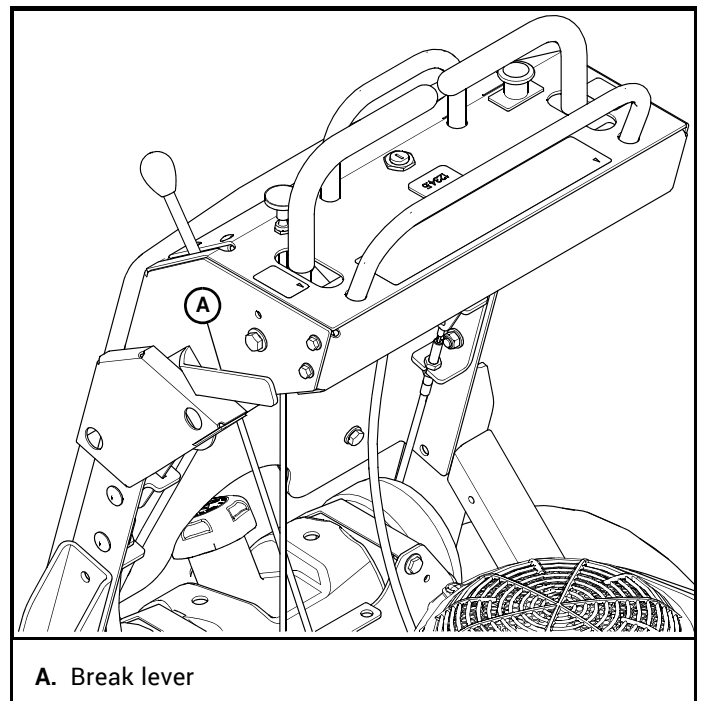
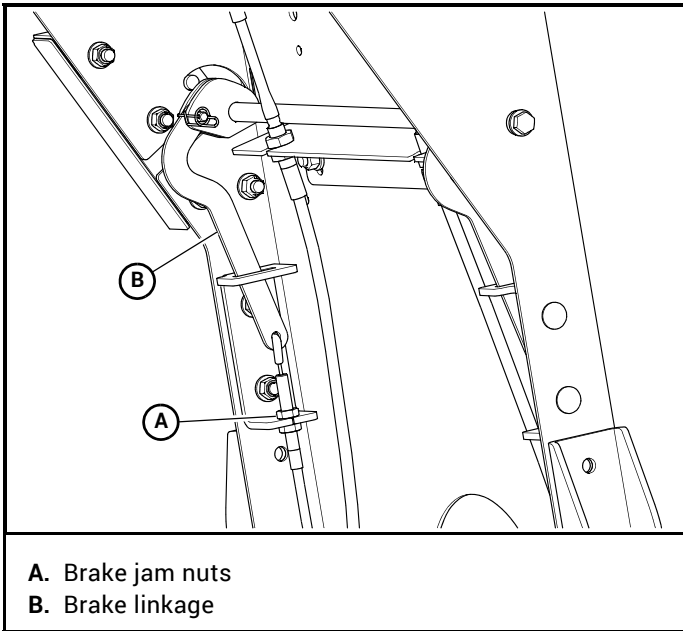
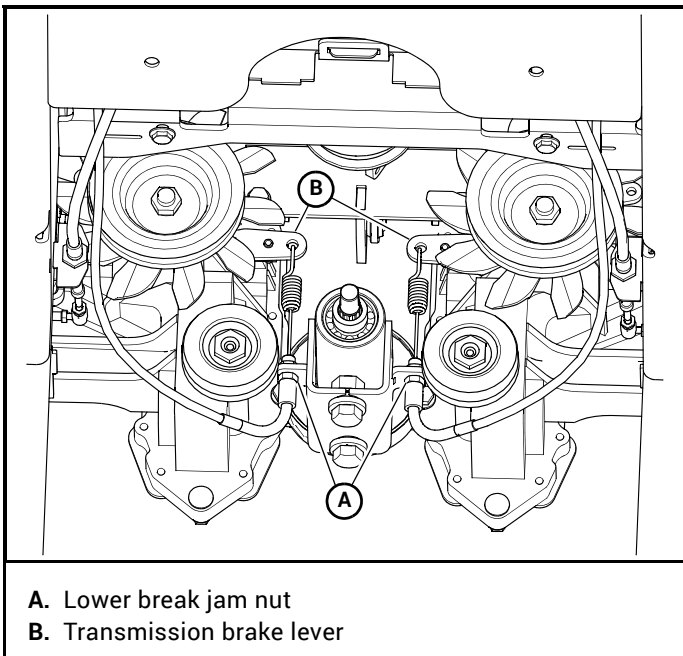

Figure 4-8
Figure 4-9
Figure 4-10
- Loosen the jam nuts to adjust the brake cable to keep the transmission brake levers in the run mode when the brake lever is not in the park position. Figure 4-8, Figure 4-9 & Figure 4-10